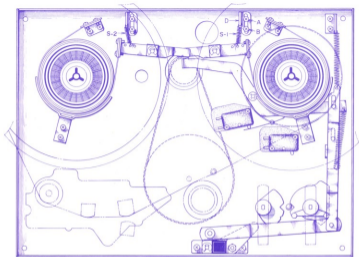

Fig. 6-5
To regulate tension, change the position of the suspended springs (S₁ and S₂ in Fig. 6-5) or loosen screws (A) (B) and regulate position of the spring suspension metal fitting (D).